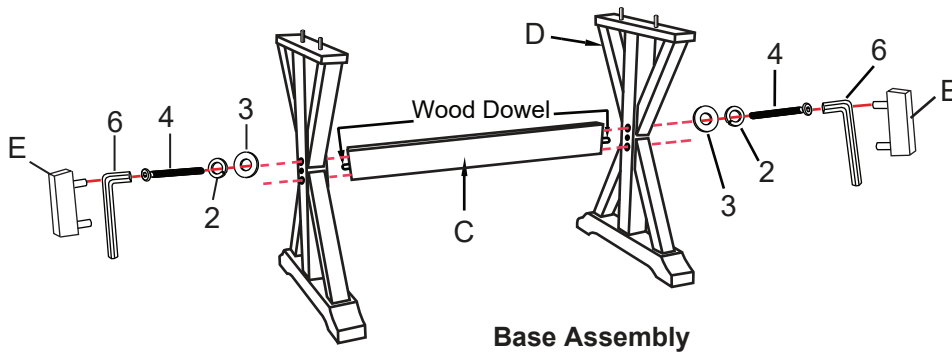

Fig.1
1.1- Step 1.1 Attach the Stretcher to the Trestle using the supply hardware as shown in Fig.1 Add End Caps as shown in Fig.1